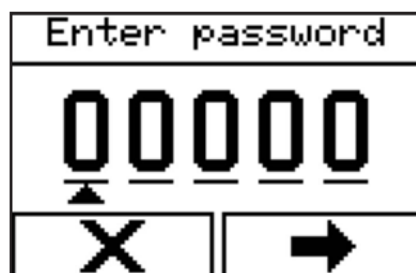

Figure 69 - 'Password' menu
⇒ The menu for entering the password (Figure 69) is displayed.
2. Set the basic password or the advanced password (Figure 69).